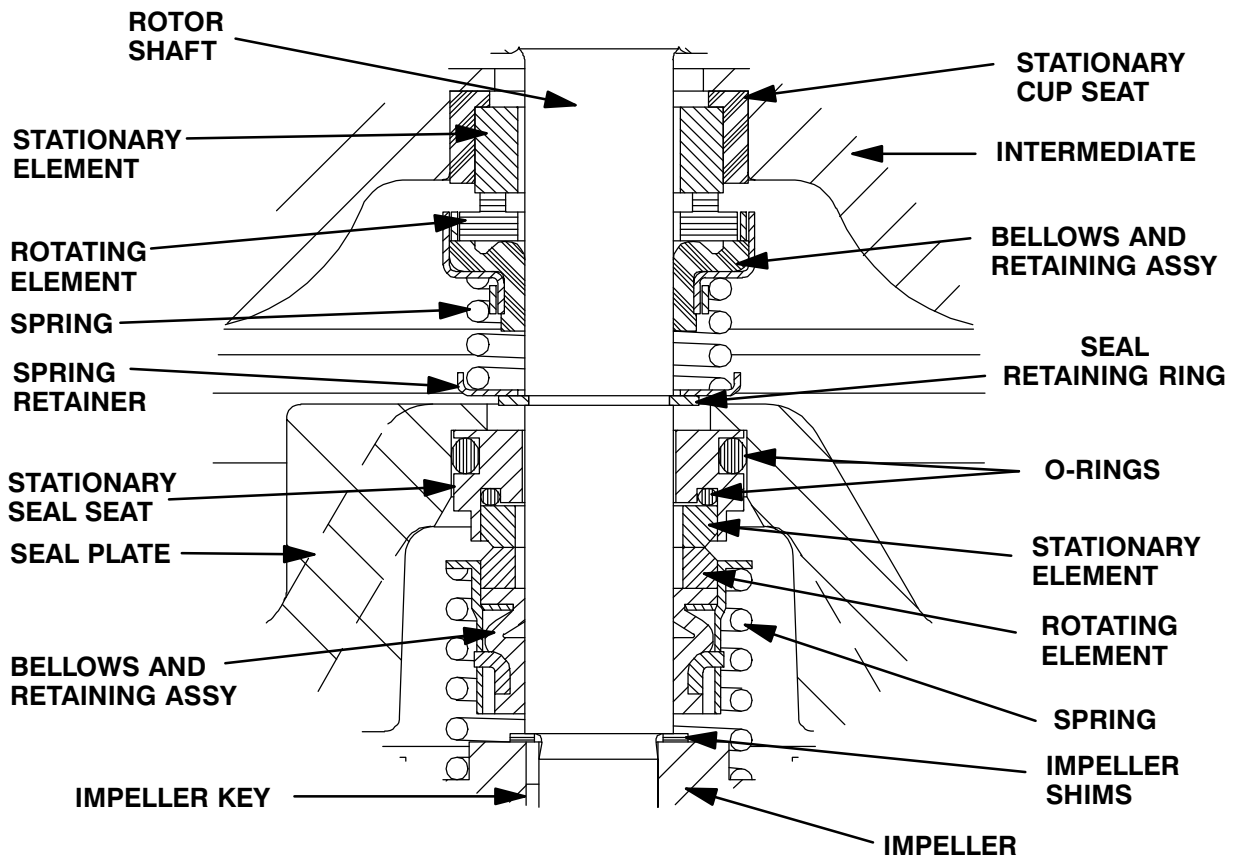

Figure 3. Upper And Lower Seal Assemblies
Install the shaft seals as illustrated in Figure 3.
Apply a **light** coating of oil to the seal seating surface on the shaft, the groove for the retaining ring (7), and I.D. of the bellows. Inspect the seal face to ensure that it is clean and dry. If cleaning is necessary, use a clean tissue to wipe in a circular pattern. Slide the seal rotating portion onto the lubricated shaft as shown in Figure 3. Apply firm, steady pressure on the seal retainer until it slides down the shaft and the seal faces contact.
ing ring (7). See Figure 3 for the proper order of seal assembly.
Unpack the stationary seat and element, and check that the O-rings are properly installed (see Figure 3). Subassemble the stationary element in the stationary seat. Apply a **light** coating of oil to the seal plate bore and the O.D. of the of the seal seat. Keep the sealing face dry.
Slide the seal spring over the shaft and bellows retainer. See Figure 3 for proper order of seal assembly.